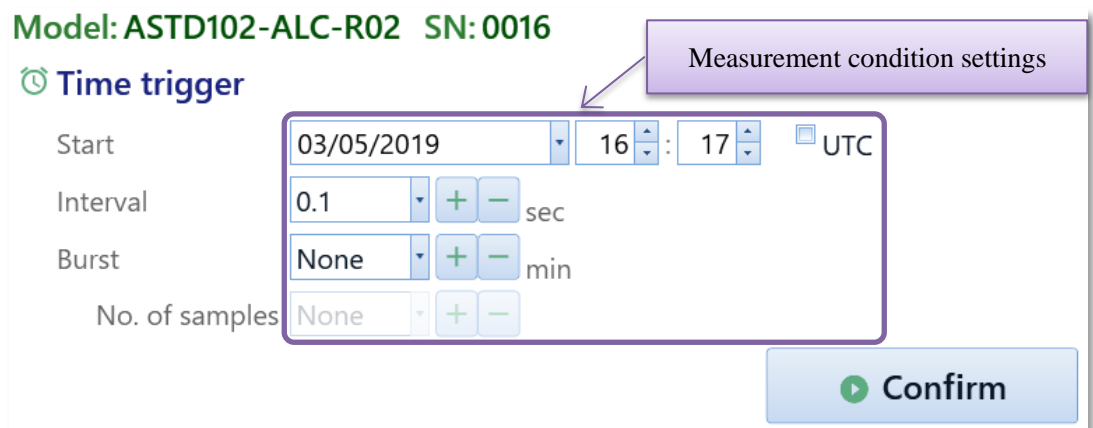

Figure 6.20 Setting up measurement conditions
- (4) Setup measurement conditions. (Figure 6.20)